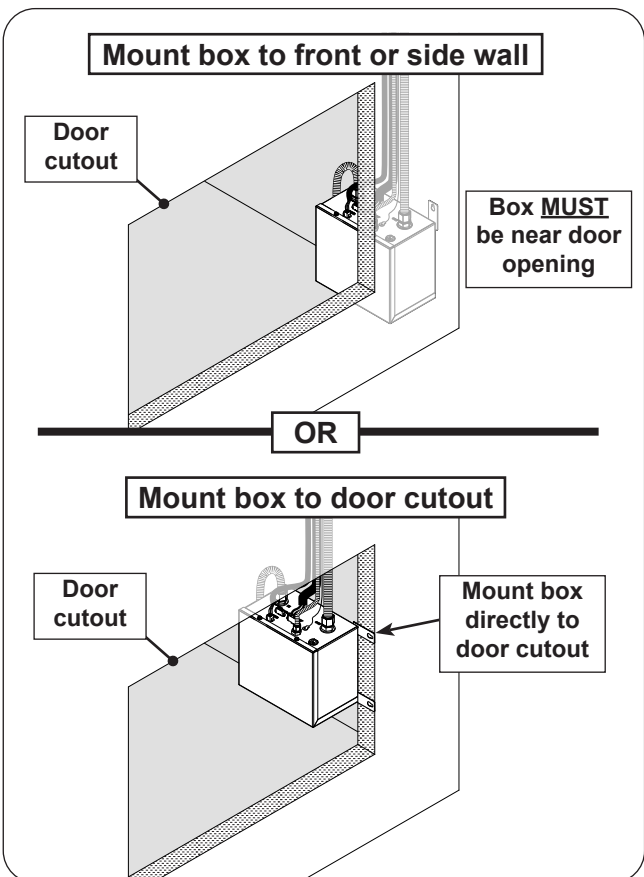

Fig. 27-2 Control box installation - mounting detail
- mounted near an access door/panel for easy access (see Fig. 27-2).